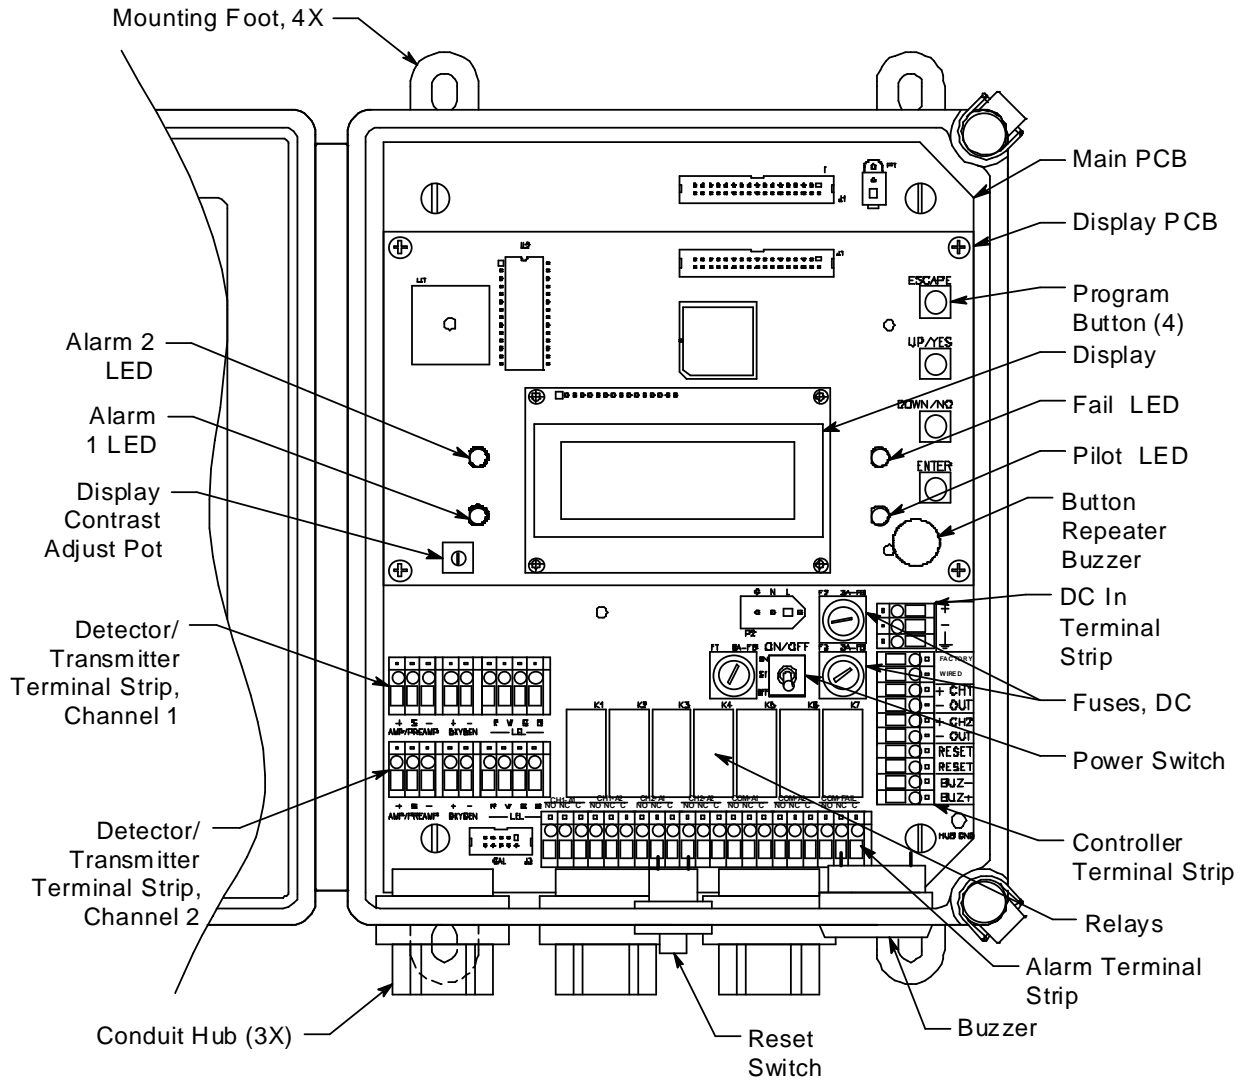

Figure 1. 12 VDC Beacon 200 Component Location
- **Detector/Transmitter Terminal Strips.** Two detector/transmitter terminal strips are located near the bottom left corner of the main circuit board (see Figure 1). These two 9-point terminal strips facilitate wiring connections to the detectors or transmitters. Although each terminal strip can accommodate several different detector head models, only one detector head at a time may be wired per channel. The top terminal strip is for channel 1 and the bottom terminal strip is for channel 2.
- **Alarm Terminal Strip.** The alarm terminal strip is located along the bottom edge of the main circuit board (see Figure 1). This 21-point terminal strips facilitates wiring connections to external alarm devices (horn, strobe, etc.). Terminals are provided for individual channels as well as common alarm relay contacts.
- **Controller Terminal Strip.** The 10-point controller terminal strip is near the lower right edge of the main circuit board (see Figure 1). The controller terminal strip facilitates various internal and external wiring connections. Table 3 lists the function of each terminal.
- **DC In Terminal Strip.** The DC in terminal strip is a 3-point terminal strip located above the controller terminal strip (see Figure 1). It facilitates wiring from a 12 VDC power source. Table 4 lists the function of each terminal.
- **Channel relays.** The four channel relays are above the alarm terminal strip (see Figure 1). These relays are dedicated to specific channels and alarm levels.
- **Common relays.** The three common relays, alarm 1, alarm 2, and fail, are to the left of the controller terminal strip (see Figure 1). These relays are common for both channels.
The power switch is located above the relays and to the left of the DC fuses (see Figure 1). The power switch turns the incoming DC power source on and off at the 12 VDC Beacon 200. When the switch is up, the power switch is on.